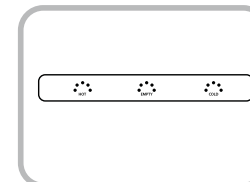

Fig.3
6. Turn ON the hot water switch, wait a couple minutes and turn ON the cold water switch. Allow the unit to reach the minimum cold and hot water temperatures. This will take approximately 35 to 45 minutes and the Indicator Light will turn OFF. (Fig.3)